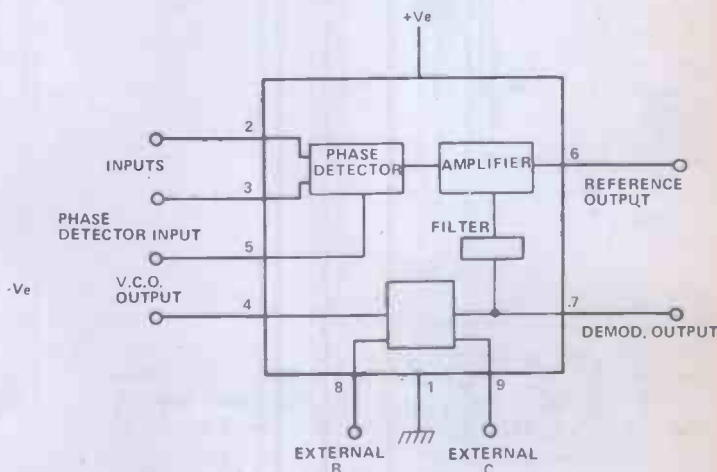

Fig. 7.14 A block diagram of the NE565 PLL.
The phase-locked loop is a type of IC which is rather more specialised than the ones we've looked at earlier in this series, but it's a circuit which is nowadays used to such an extent that we can't ignore it. The block diagram of a phase-locked loop (PLL) is shown in Fig. 7.14, it consists of an oscillator whose frequency can be controlled by a steady (DC) voltage, along with a phase comparator (or phase-sensitive detector). The phase comparator does pretty well what its name suggests — it compares the phase of two signals and gives an output whose amplitude and sign depends on the phase difference. Let's make that a bit clearer. Suppose we have two inputs A and B to a phase-sensitive detector, and we have sine-wave signals of the same frequency at each input. We can arrange the detector so that if the phase of the signal at A is earlier than the phase of the signal at B, the output of the detector is a positive DC voltage whose size depends on the amount of the phase difference, perhaps 200 mV for every 20° of phase difference.